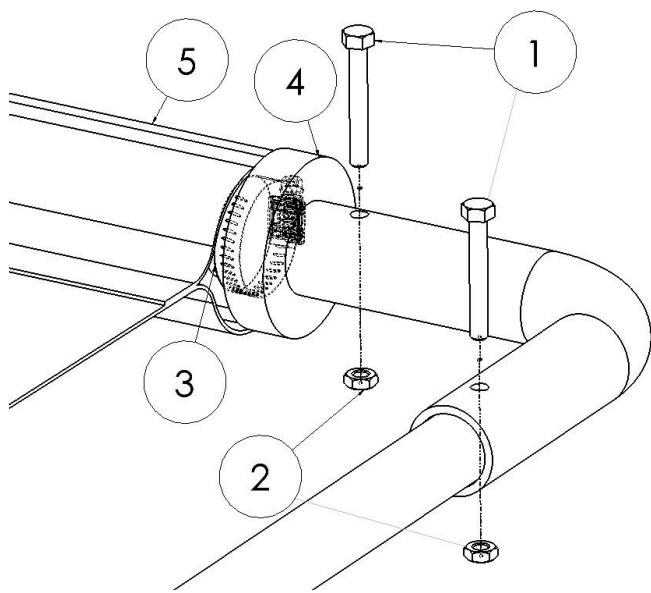

Figure 3.9
Once you have verified that the upper arms will slide into the lower arms and that the cross tube is the correct length, you will need to drill holes into the cross tube and upper arms to connect them to the 90 degree elbows. Mark where the mounting holes on the elbows line up with the upper arms and cross tube. Drill these holes into the upper arms and cross tube using a 5/16" drill bit. Before connecting the 90 degree corners and the cross tube, sandwich the pocket end of the tarp (5) between the rubber tarp centering flanges (4) and their tarp collar clamps (3) on both sides of the cross tube. Secure the 90 degree corners to the upper arms and cross tube using 5/16" x 2-1/4" hex bolts (1) and 5/16" hex nuts (2). (Figure 3.9)